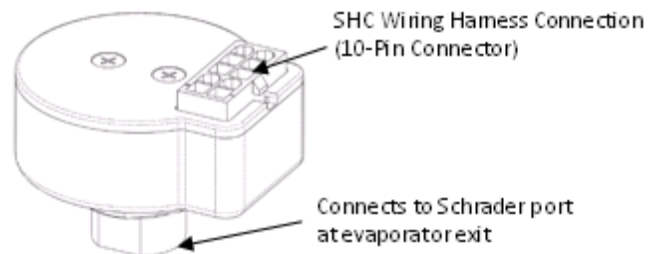
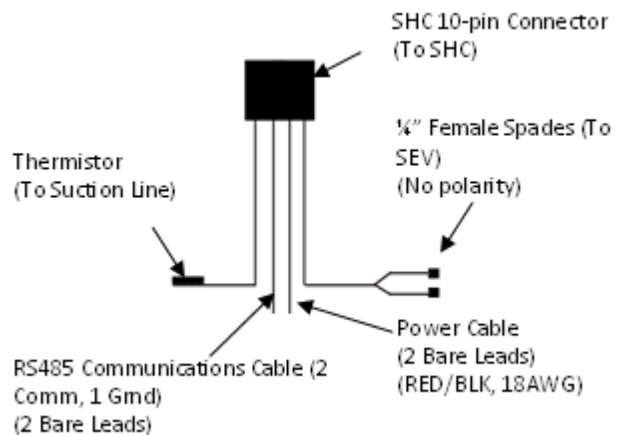

Figure 5: Superheat Controller Schrader Ports
Figure 6: SHC Wiring Harness Diagram
Use the SHC housing body for the first few turns on the Schrader but do not tighten the SHC using the housing. See Figure 5 and Figure 8.
4. Attach the SHC wiring harness (10-pin connector) to the SHC and install the Thermistor (See Figure 5, and Figure 6).
The SHC Wiring Harness includes a large 10-pin white Molex connector that fits into the SHC and a Thermistor. (See Figure 6)